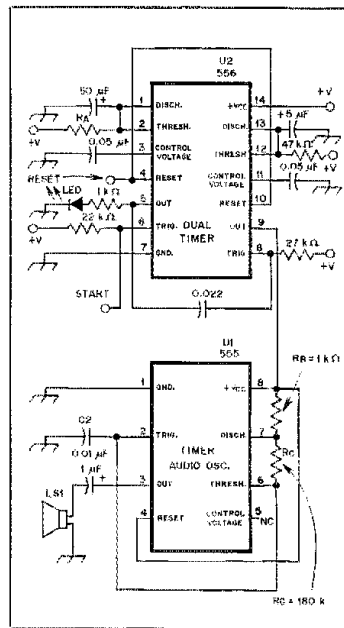

Fig. 1 — Oscillator (U1) and dual timer (U2). The timer interval is determined by the 50 μ F capacitor and resistance R.
In general, an i-d reminder circuit would emit a brief tone or turn on an LED to remind the operator to identify before the 10-minute limit is reached. Amateurs who operate through vhf repeaters equipped with timers can benefit from a circuit that emits a short tone, warning that the carrier is about to drop. In both cases, an audio oscillator is a necessary requirement. Fig. 1 shows a 555-timer chip (U1) functioning as an audio oscillator. Actually, the correct description is an astable multivibrator configuration. In simple terms, the output at pin 3 turns on (+V) and off (0) continuously at a rate determined by the 1-k Ω and 180-k Ω resistors in conjunction with the 0.01- μ F capacitor. If resistance R_C is much greater than R_B , the
frequency is given by the formula $f = 1.6 / (R_C \times C_2)$ where the resistance is in megohms and the capacitance is in microfarads. In Fig. 1, the frequency is about 900 Hz for values of 180 k Ω and 0.01 μ F.
U2 in Fig. 1 is a dual timer.⁴ Except for common +V and ground, this type 556 contains two independent timer circuits. The left side of the chip (U2A) is used as an interval timer which measures, for example, the 30 or 60 seconds for repeater warning or the slightly less than 10 minutes for an i-d reminder. The right side (U2B) of the timer chip is turned on when U2A has completed the timing interval and determines the length of time the oscillator (U1) is on.
The values of components at pins 1 and 2 of U2A (pins 12 and 13 for U2B) determine the time interval. The formula is approximately $T_{\text{osc}} = 1.25 \times R \times C$ where resistance is in megohms and capacitance is in microfarads. In Fig. 1, R_A is not specified. A potentiometer, a single resistor or several resistances mounted on a ganged switch may be used for R. As an example, with a 100- μ F capacitor and a 5-M Ω potentiometer, all times from 0 to 10.4 minutes are possible. Timer U2B with a 47-k Ω resistor and a 5- μ F capacitor allows the oscillator to be on for 0.3 second.